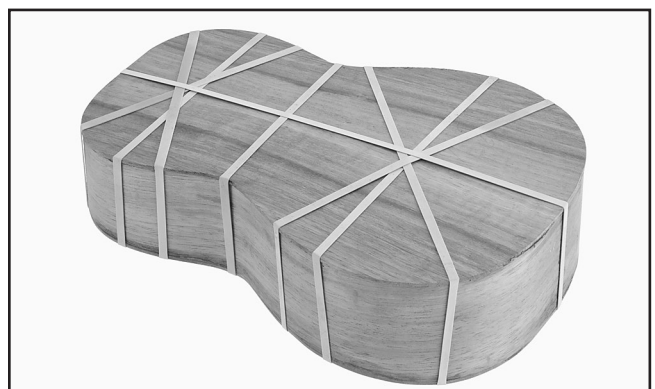

Figure 20. Back glue to the ukulele body with rubber bands.
2. Secure the back to the body with rubber bands, ensuring a tight fit all around the instrument, as shown in **Figure 20**. Use wedges if necessary to ensure a tight fit. Allow the glue to dry for the manufacturer's recommended time.